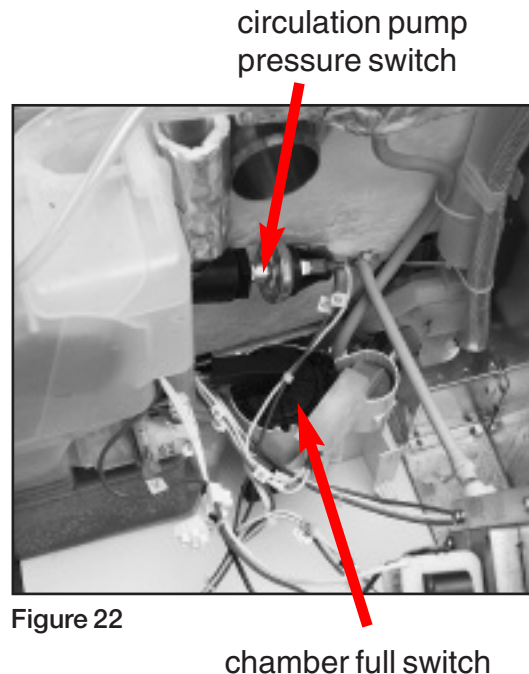

Figure 22
2. Using the debug screen check if the pressure switch for the upper arm turns ON when the circulation pump is ON. If not, replace the upper arm pressure switch (Figure 22). If OK, proceed to step 3.